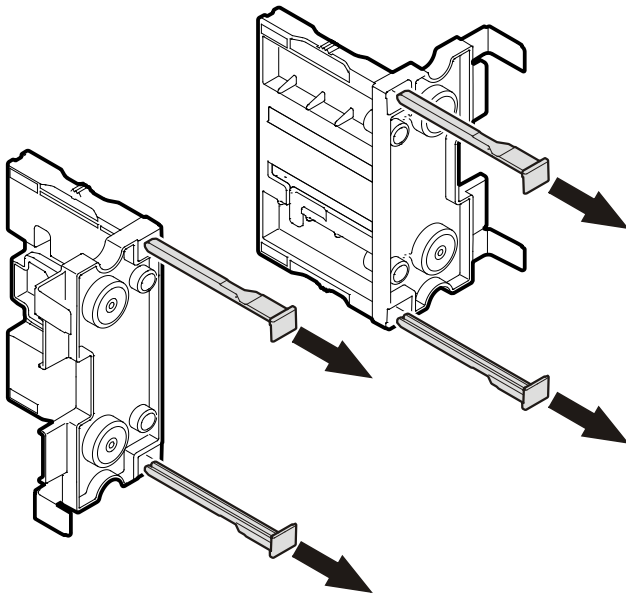

Figure 21
3. Remove the locking pins of both supports. The supports are provided with the appliance accessory pack (**Figure 21**).